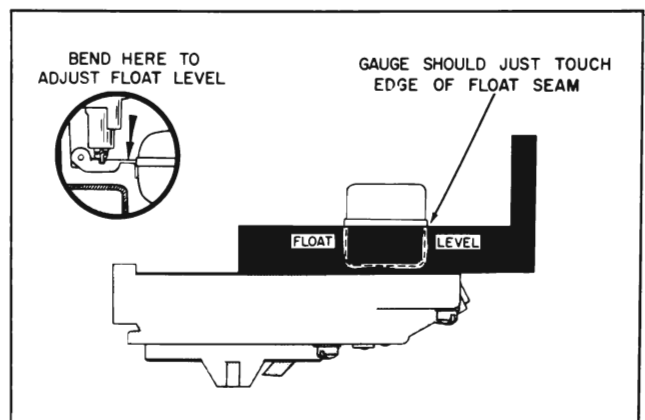

Figure 3-23—Float Level Adjustment
9. **Adjust Float Level.** With air horn assembly inverted, measure distance from air horn gasket to lower edge (sharp edge) of float seam at end of float using Float Level Gauge (11/16") of Gauge Set J-9585 as shown. Bend float arm as required to adjust float level. See Figure 3-23.